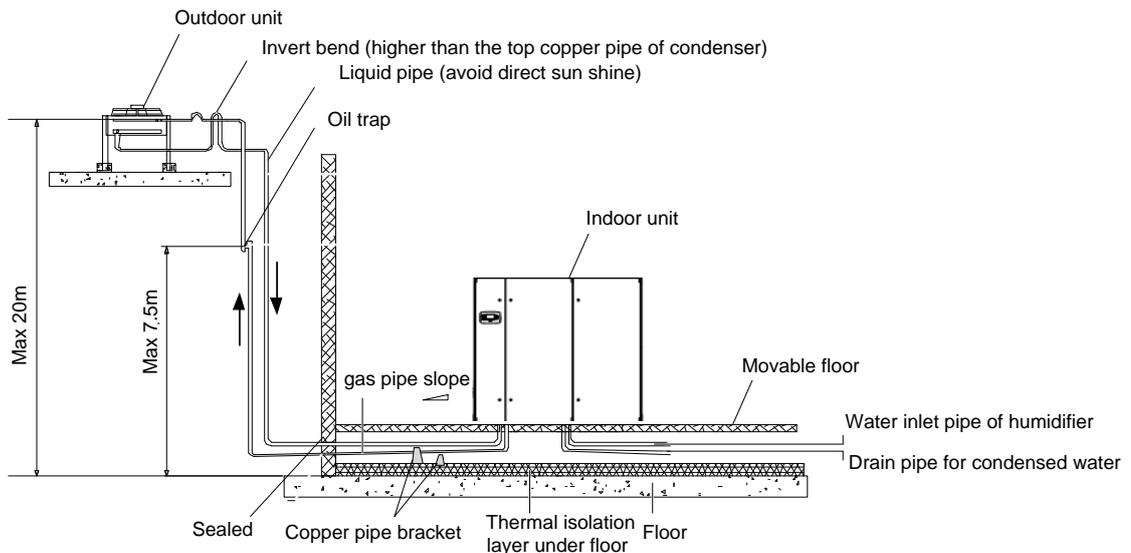
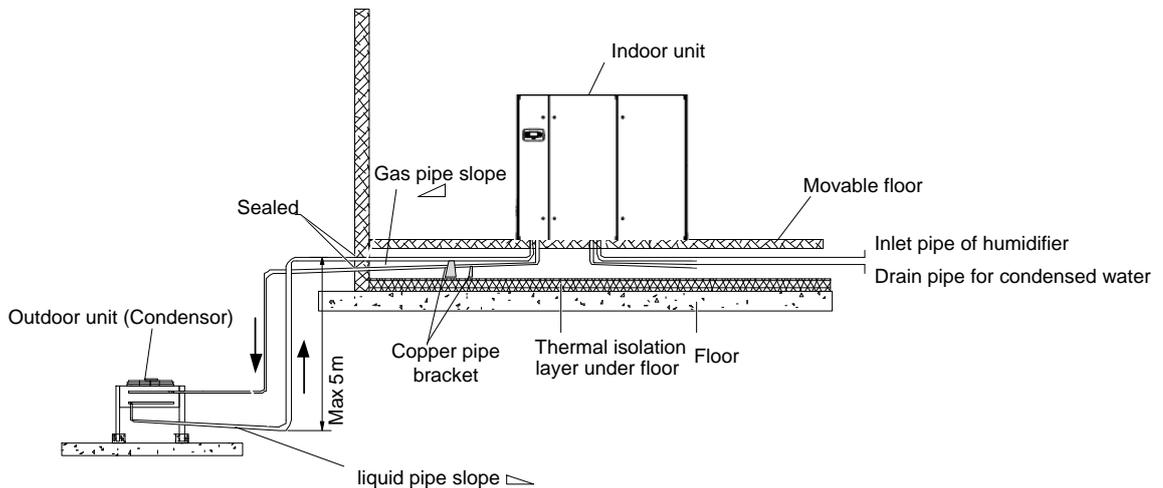

Figure 3-2 Condenser installed higher than compressor
Figure 3-3 Condenser installed lower than compressor
The installation modes of the unit are shown in Figure 3-2 and Figure 3-3.
- If the condenser is installed higher than the compressor (see Figure 3-2), a back bend should be fitted to the discharge line and liquid line of the condenser, so as to prevent the liquid refrigerant from flowing back when the condenser stops.